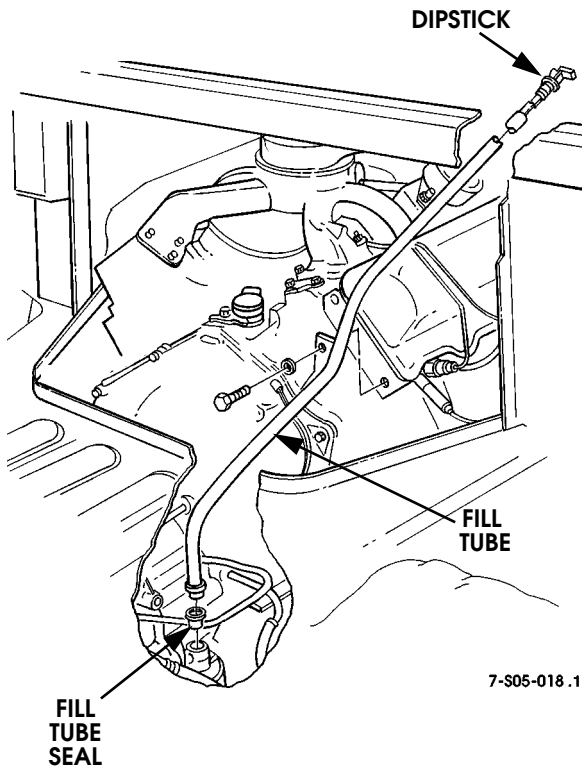

Figure 5-28: Fill Tube Attachment (NA Diesel Shown)
1. Remove dipstick from fill tube (Figure 5-28).
3. Remove bolt attaching fill tube bracket to cylinder head on non-turbo, or heat shields on turbo models (Figure 5-28).